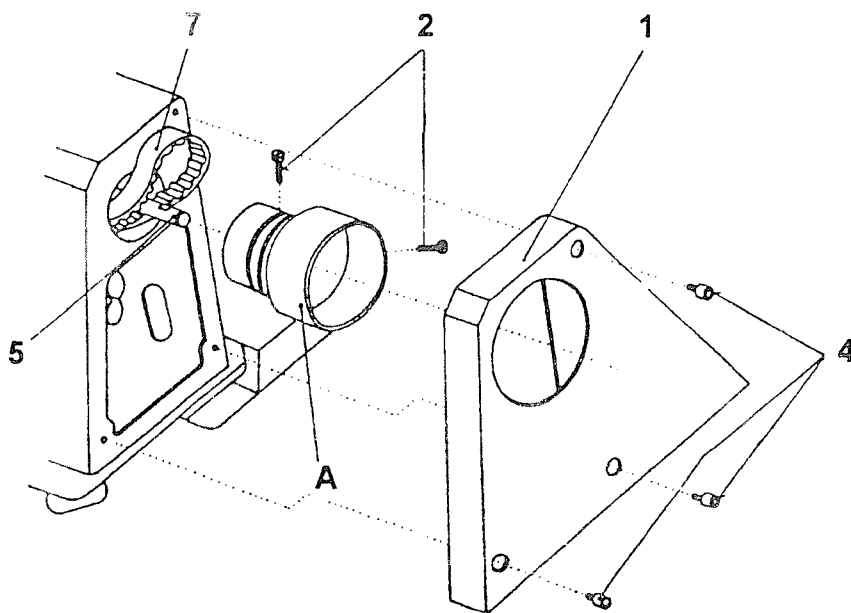

Fig. 10
15. To remove and mount the drive belt (Fig. 10)